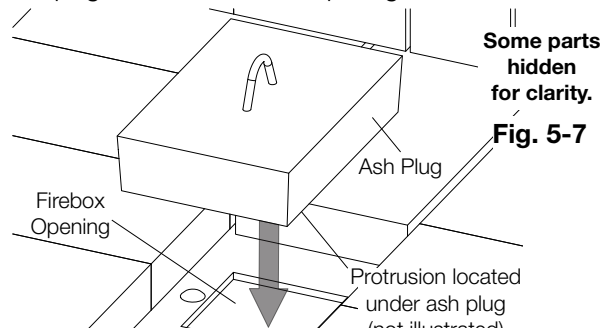

Fig. 5-7
6. Once the area surrounding the opening has been cleaned, place the new ash plug (supplied) over the opening. Ensure the protrusion on the ash plug is recessed into the opening on the bottom of the firebox (**Fig. 5-7**).